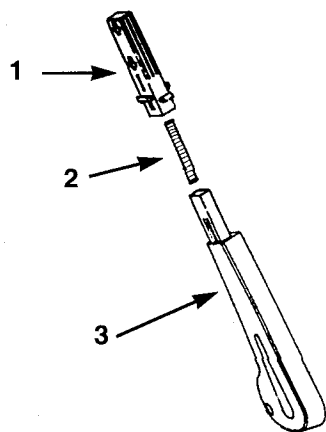

Figure 10
10. Insert the spring into the top handle and slide it onto the hopper lever until the tab snaps into the hole (Fig. 10).